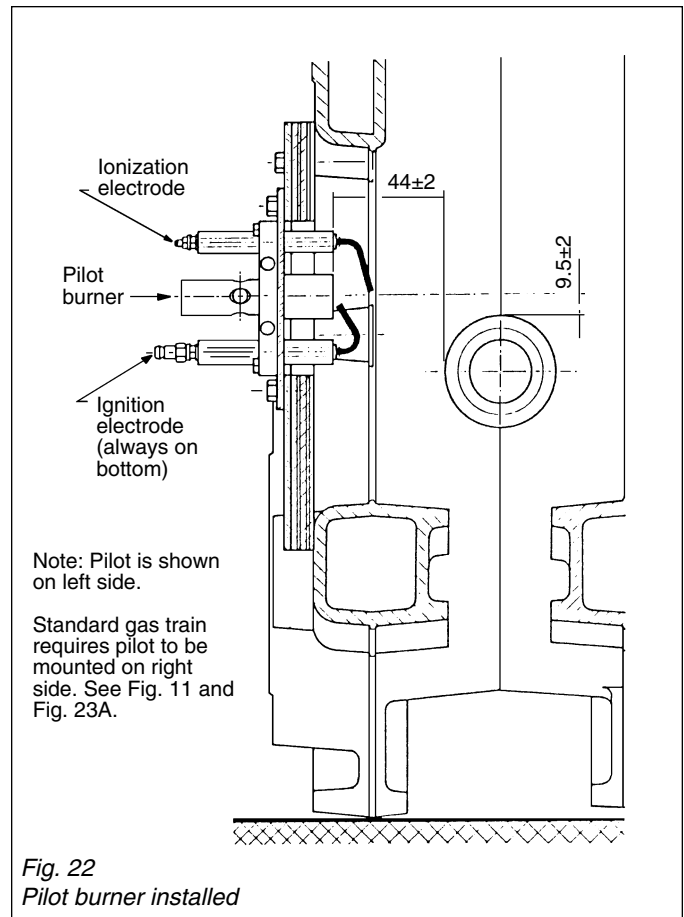

Fig. 22
- c) Reassemble the pilot and refit onto the combustion chamber cover plate in reverse order to that above (see Fig. 22). Pilot burner should be removed when cleaning heat exchanger to prevent debris from blocking pilot orifice.